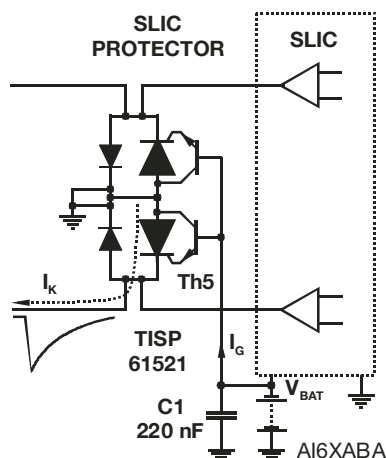
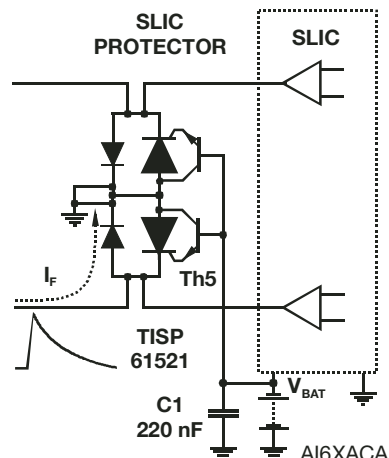
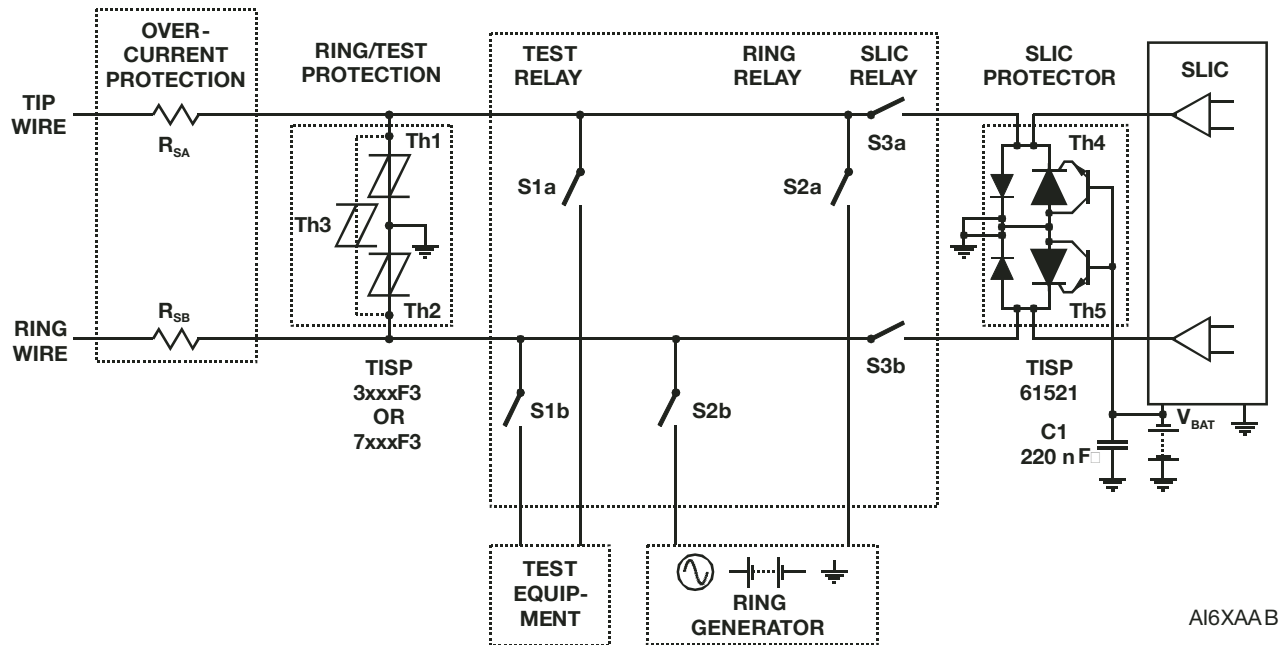

Figure 3. Negative Overvoltage Condition
Figure 4. Positive Overvoltage Condition
Figure 6. Typical Application Circuit
SLICs have become more sophisticated. To minimize power consumption, some designs automatically adjust the driver supply voltage to a value that is just sufficient to drive the required line current. For short lines, the supply voltage would be set low, but for long lines, a higher supply voltage would be generated to drive sufficient line current. The optimum protection for this type of SLIC would be given by a protection voltage which tracks the SLIC supply voltage. This can be achieved by connecting the protection thyristor gate to the SLIC V_{BATH} supply, Figure 3. This gated (programmable) protection arrangement minimizes the voltage stress on the SLIC, no matter what value of supply voltage.
Figure 3 and Figure 4 show how the TISP61521 limits negative and positive overvoltages. Positive overvoltages (Figure 4) are clipped by the antiparallel diode of Th5 and the resulting current is diverted to ground. Negative overvoltages (Figure 3) are initially clipped close to the SLIC negative supply rail value (V_{BATH}). If sufficient current is available from the overvoltage, then Th5 will switch into a low voltage on-state condition. As the overvoltage subsides, the high holding current of Th5 prevents d.c. latchup. The protection voltage will be the sum of the gate supply (V_{BATH}) and the peak gate-cathode voltage ($V_{GK(BO)}$). The protection voltage will be increased if there is a long connection between the gate decoupling capacitor, C1, and the gate terminal. During the initial rise of a fast impulse, the gate current (I_G) is the same as the cathode current (I_K). Rates of 70 A/ μ s can cause inductive voltages of 0.7 V in 2.5 cm of printed wiring track. To minimize this inductive voltage increase of protection voltage, the length of the capacitor to gate terminal tracking should be minimized. Inductive voltages in the protector cathode wiring will also increase the protection voltage. These voltages can be minimized by routing the SLIC connection through the protector as shown in Figure 6.
Figure 6 shows a typical TISP61521 SLIC card protection circuit. The incoming line conductors, Ring (R) and Tip (T), connect to the relay matrix via the series overcurrent protection. Fusible resistors, fuses and positive temperature coefficient (PTC) resistors can be used for overcurrent protection. Resistors will reduce the prospective current from the surge generator for both the TISP61521 and the ring/test protector. The TISP7xxxF3 protector has the same protection voltage for any terminal pair. This protector is used when the ring generator configuration may be ground or battery-backed. For dedicated ground-backed ringing generators, the TISP3xxxF3 gives better protection as its inter-conductor protection voltage is twice the conductor to ground value.